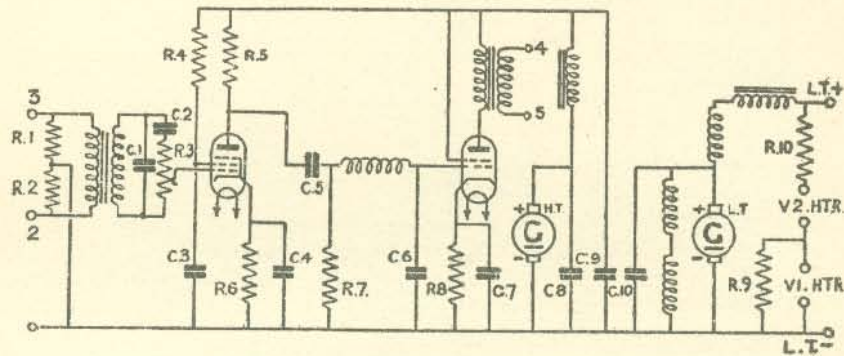

FIG. 97.—Circuit diagram I/C amplifier 3611.
6. Intercommunication Amplifier 3611 (fig. 97).—The amplifier is a two stage high gain unit employing a pentode (6SK7), R.C. coupled to a beam tetrode (6V6). The power output is 3 watts at 1,000 cycles and may be worked into loads of 60 to 600 ohms. An internally mounted M.G. giving supplies of 230 volts at 60 mA for H.T. Both valves are cathode biased. The volume control is in the grid circuit of the first stage, and the "on/off" switch is situated in the transmitter remote control unit.